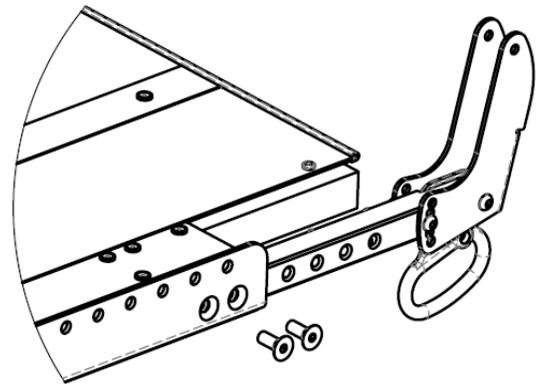

Figure 15.6: Adjusting the seat depth
1. Loosen and remove the two 5/16-18 flat head fasteners on each side (see Figure 15.6).